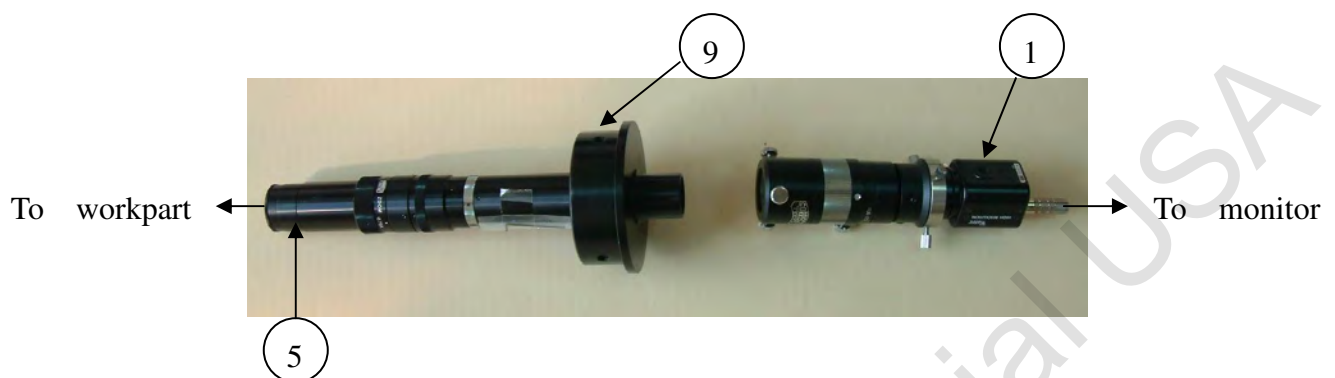

Fig 6-4 Half-assembled of the capturing system
The half-assembled picture is shown in Fig 6-4.
- ① Knob1: To clamp part ② when the height of part ② was set.
- ② Major up-down column: To connect the inspecting system with the machine frame.
- ③ Rack: To move the set slowly.
- ④ Sleeve: To hold the capturing system (Part 9 in Fig 6-4).